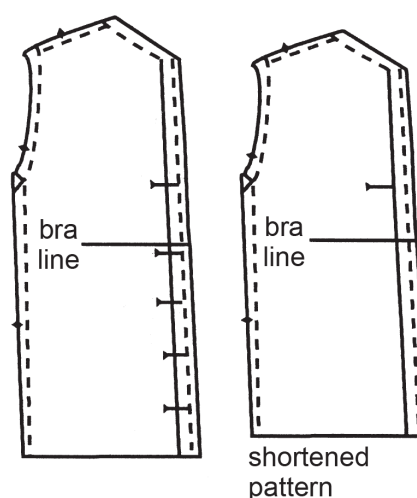

Figure 6. If the pattern was lengthened or shortened, the buttonhole placement must be altered.
- If the pattern was lengthened, mark the same number of buttonholes below your waistline as indicated on the pattern (Figure 6).